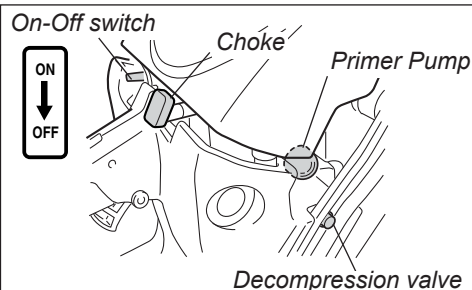

Figure 9. Depress the primer pump.
1. Move the On-Off switch to the (I) position.
2. Depress the primer pump a few times repeatedly until the primer pump is almost filled with fuel. See Figure 9.
4. Pull the choke all the way out (choke closed). The throttle will automatically be set to fast idle. See Figure 9.